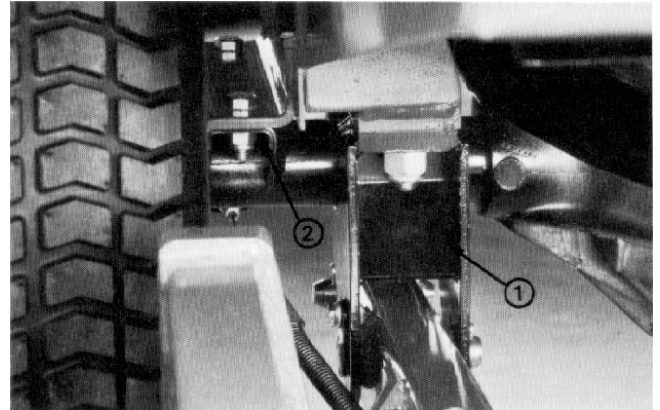

Figure 3A
5. Remove the carrier brackets (Fig. 3A).